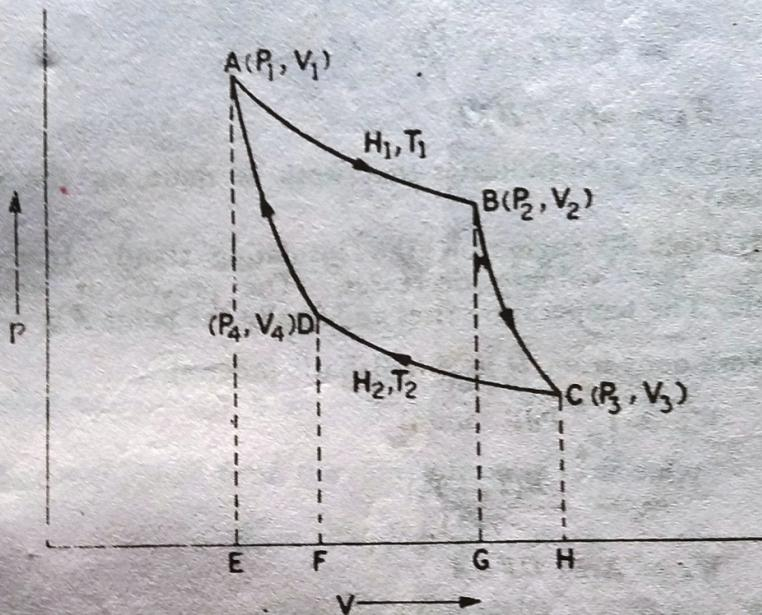

Fig. 6.13
✓ (1) Place the engine containing the working substance over the source at temperature T_1 . The working substance is also at a temperature T_1 . Its pressure is P_1 and volume is V_1 , as shown by the point A in Fig. 6.13. Decrease the pressure. The volume of the working substance increases. Work is done by the working substance. As the bottom is perfectly conducting to the source at temperature T_1 , it absorbs heat. The process is completely isothermal. The temperature remains constant. Let the amount of heat
increases. The process is completely adiabatic. Work is done by the working substance at the cost of its internal energy. The temperature falls. The working substance undergoes adiabatic change from B to C . At C the temperature is T_2 (Fig. 6.13).